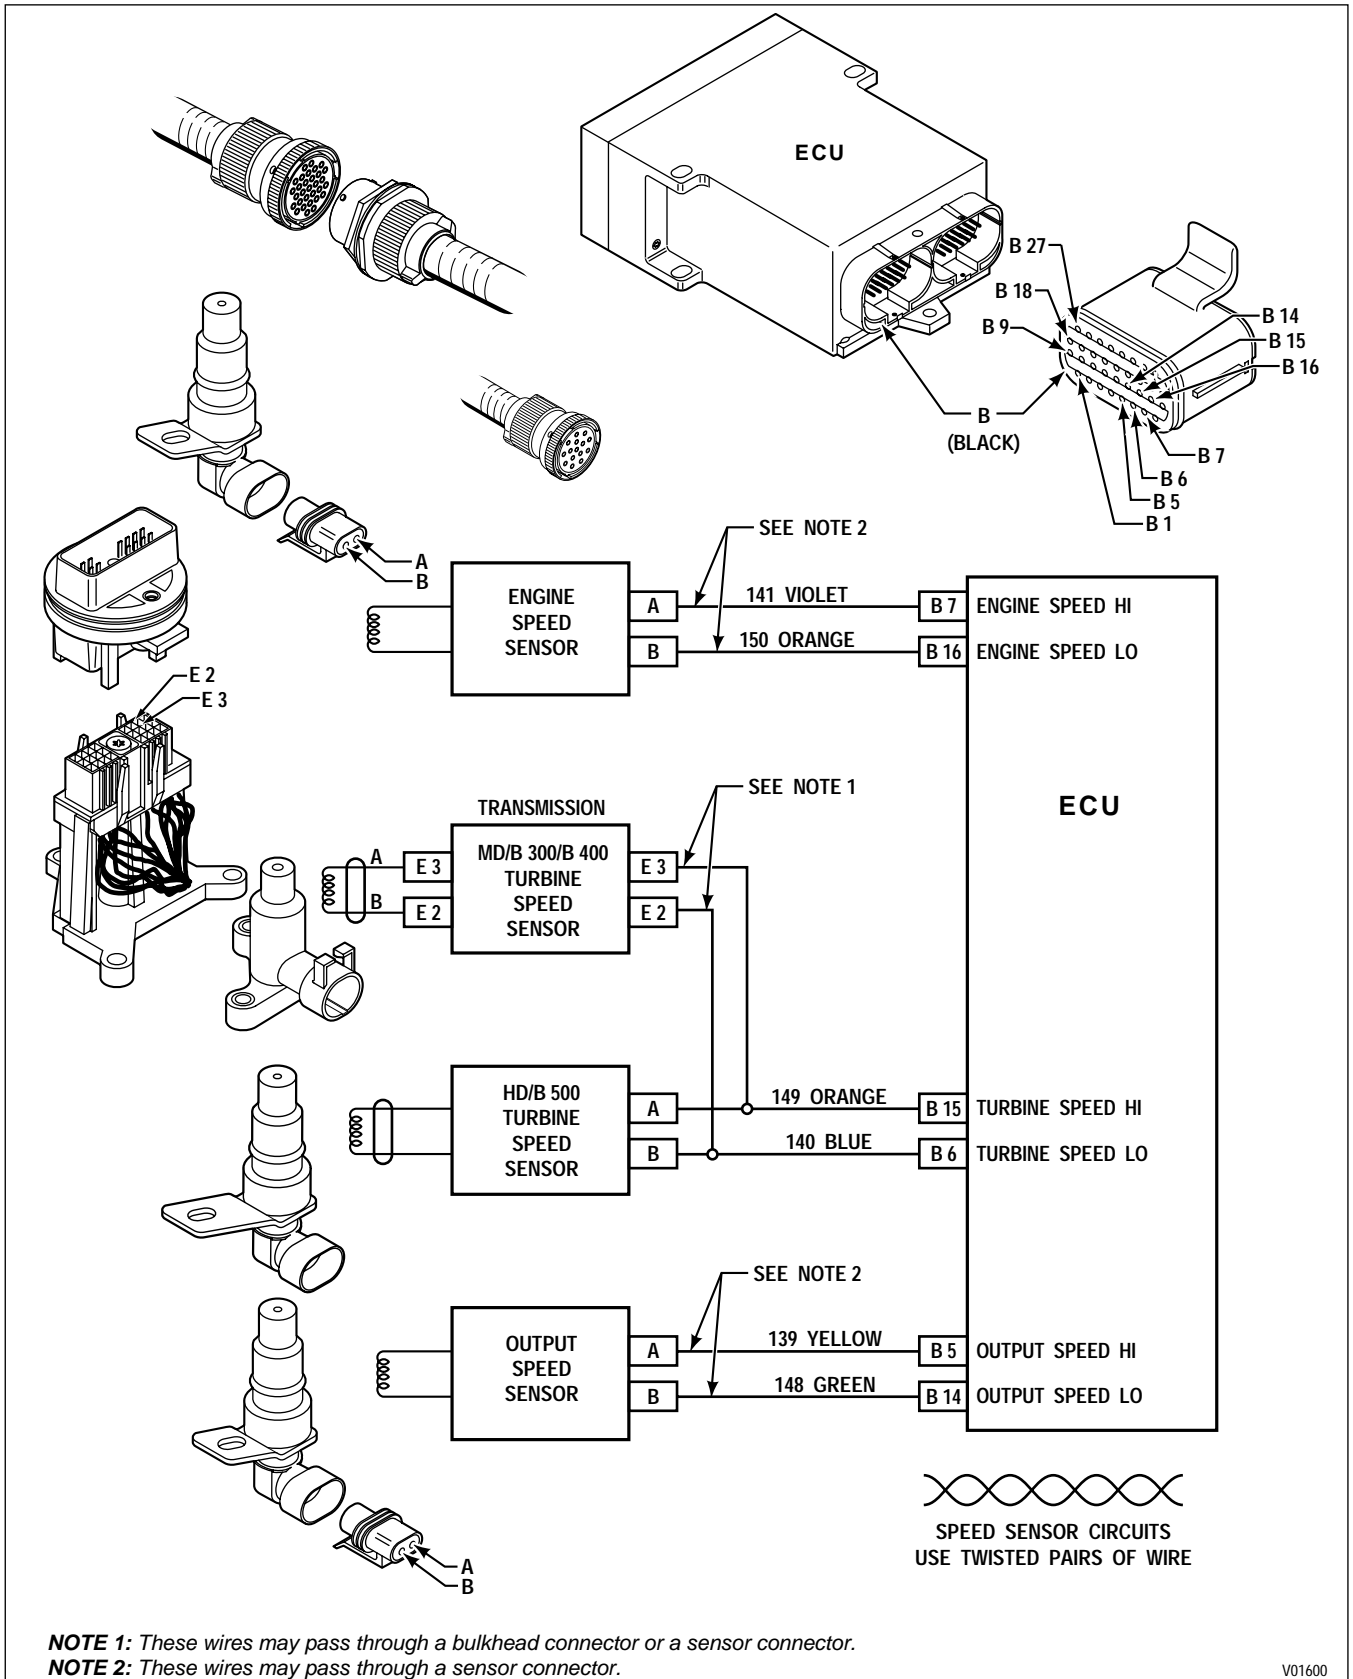

Figure 6-7. Code 22 Schematic Drawing (Units Produced Prior To 9/94)
**CODE 22 XX — SPEED SENSOR/CIRCUITRY FAULT** (*Figures 6-7, 6-8*)